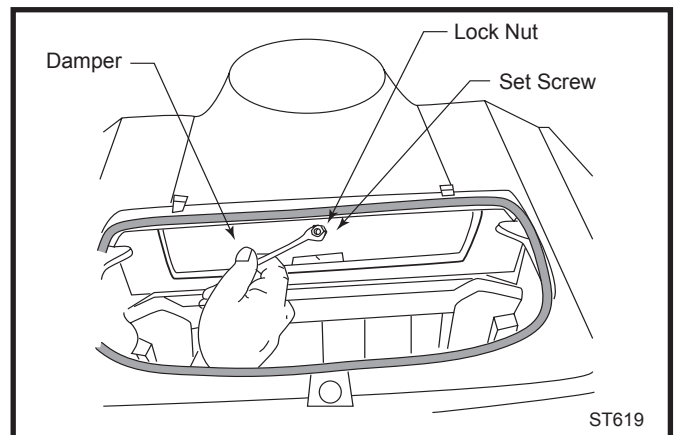

Fig. 35 When the damper's gasket becomes compressed after prolonged use, the damper should be adjusted to regain a tight seal.
- Loosen the lock nut on the set screw in the center of the damper. (Fig. 35)